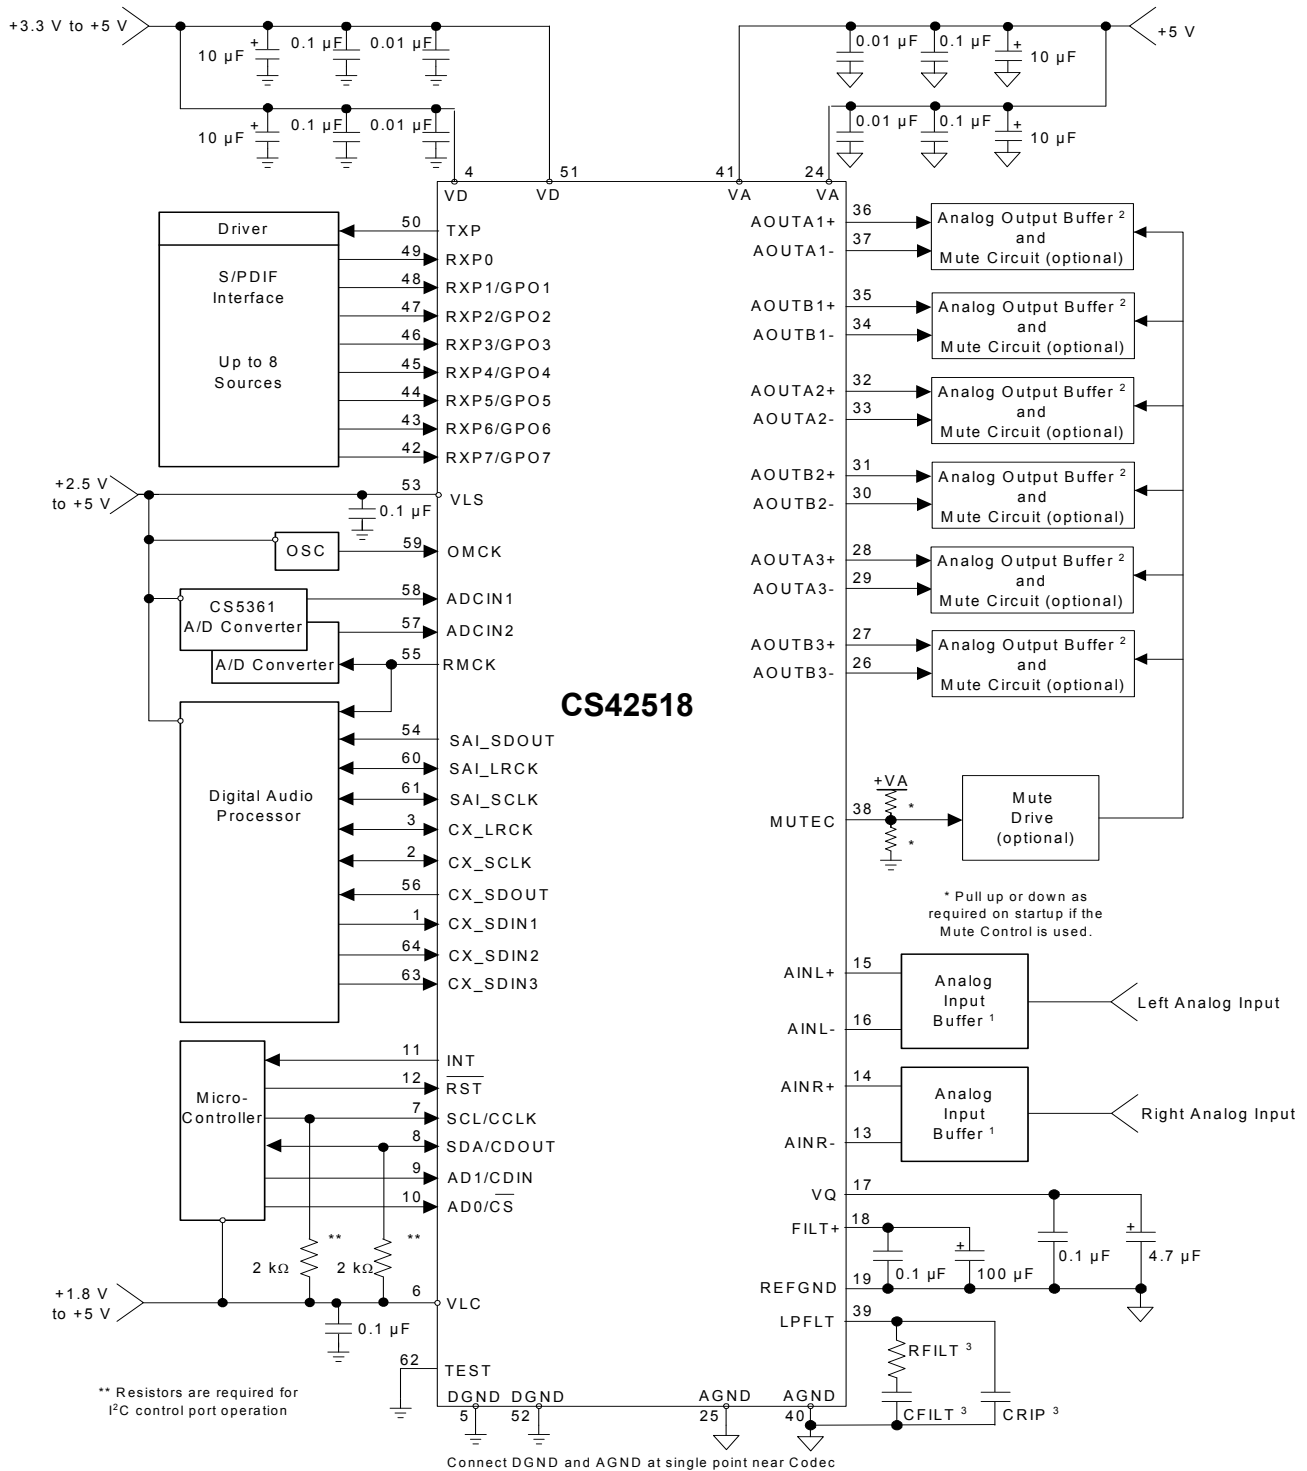

Figure 5. Typical Connection Diagram
26. Valid with the recommended capacitor values on FILT+ and VQ as shown in Figure 5.